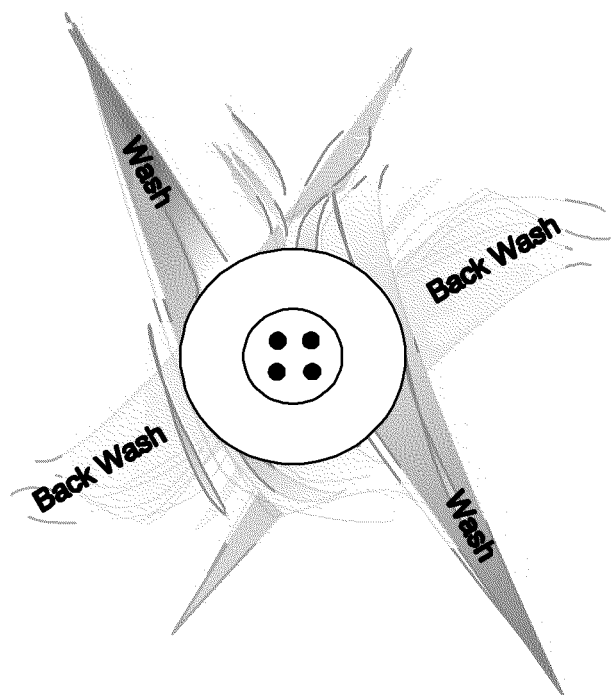

Figure 5-1
- A. Use the wash and backwash method to effectively clean all four sides of the insulator surface. For example, two nozzle operators, positioned 180° apart, should wash and rinse an insulator ensuring that enough contamination has been removed to prevent a flashover. Then the nozzle operators reposition themselves 90° in either direction from their previous position and, while maintaining a 180° displacement, thoroughly wash and rinse the insulator from this new position. The second position is commonly referred to as the backwash. (See Figure 5-1 below.)